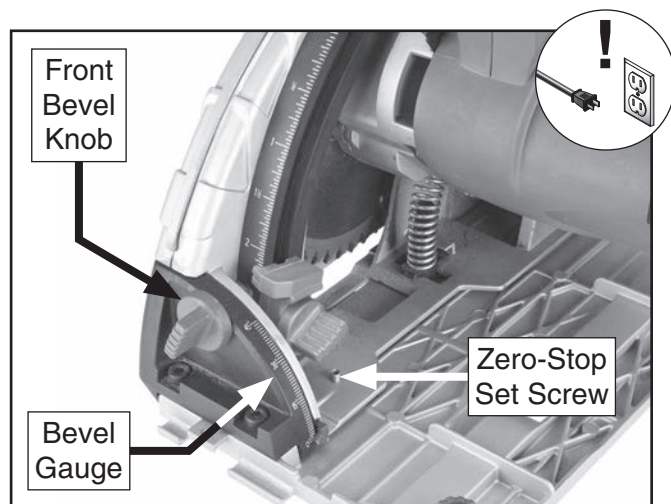

Figure 13. Angle-setting components.
1. Loosen front and rear bevel gauge knobs (see **Figure 13**).